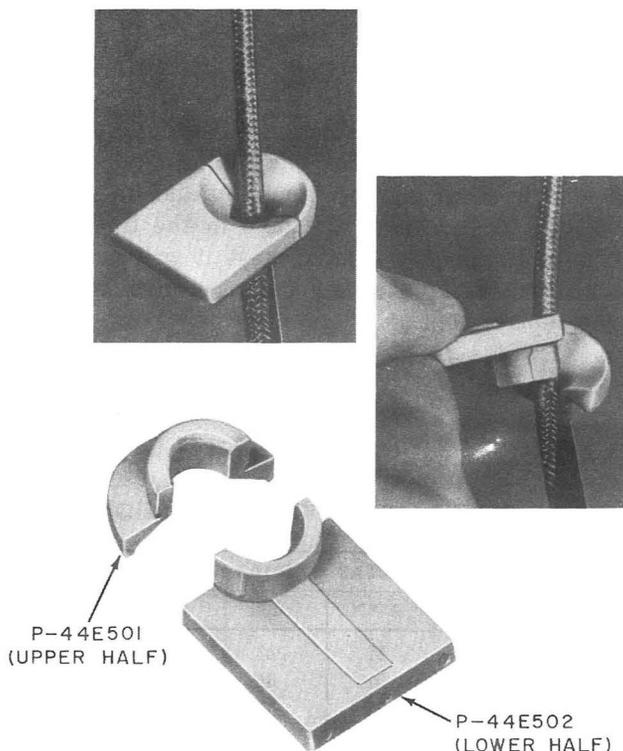

Fig. 1—Removal of Handset Cord Grommet
- (1) Grasp mat retainer frame at top, lift upward and out to release frame from panel of set.
- (2) Remove handset cord to allow working slack.
- (3) Pull out handset cord to allow working slack.
- (4) Remove mat from face of panel.
- (5) Remove grommet from mat as shown in Fig. 1.
- (6) Install grommet in new mat by reversing procedure used in removal.
- (7) Position mat on panel and secure using the mat retainer frame.